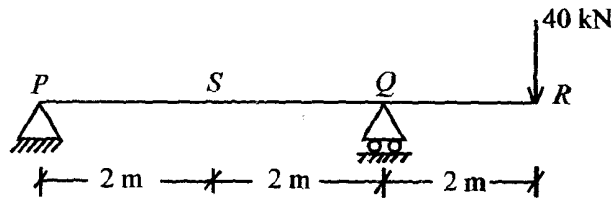

Fig. 4
2. A beam PQRS of the uniform cross-section is loaded as shown in Fig. 4. Determine (i) slope at point R, (ii) slope at point P, and (iii) deflection at point S. Use conjugate beam method. Given : $E = 200 \times 10^6 \text{ kN/m}^2$; $I = 120 \times 10^{-6} \text{ m}^4$.